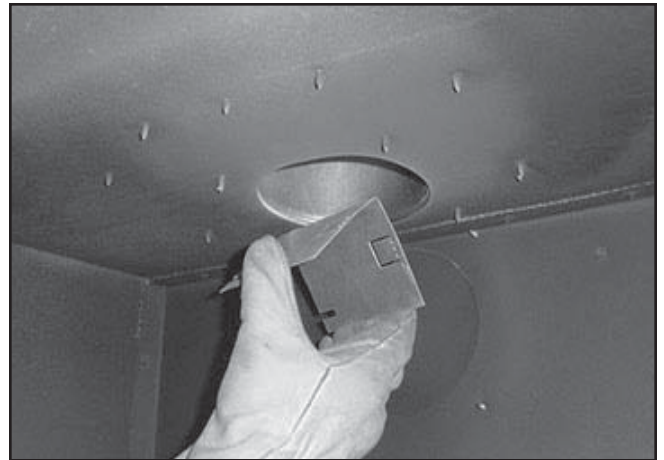

Figure 7.19 Placing the Baffle
- Squeeze the open end of the bent baffle with one hand. Insert the baffle bent side up into the inner flue so that the bottom of the baffle is above the bead on the inside of the collar. See Figure 7.19.